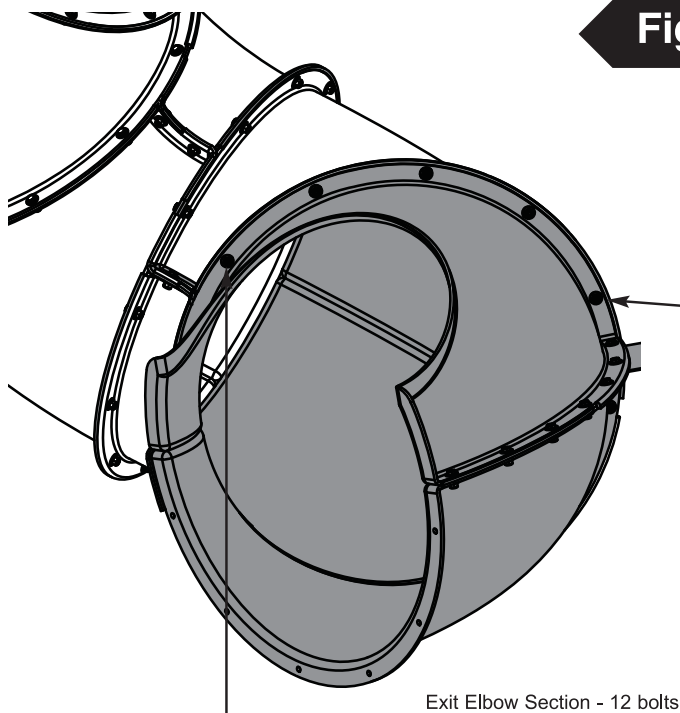

Fig. 5
1. Align Exit Elbow Section so that Hole #1 aligns with the opening in the flange, as shown in **(Fig. 5)** and **(Fig. 5b)** and secure in place.